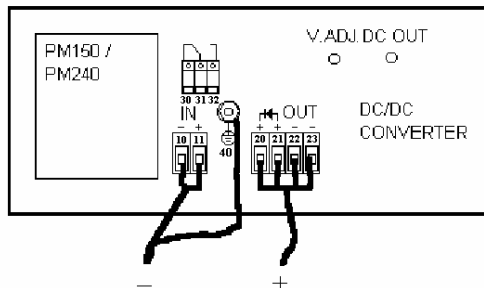

Figure 6. Output to case isolation voltage test.
- Connect your isolation tester between output and case. See *Figure 6*. Raise the voltage of the isolation tester from 0 to 4000Vd.c. Check that the leakage current does not exceed 5 $\mu$ A. The voltage should not be applied for more than a few seconds or the Y-capacitors might be damaged.
4. Connect your isolation tester between output and case. See *Figure 6*. Raise the voltage of the isolation tester from 0 to 2500Va.c. The voltage should not be applied for more than one (1) minute or the Y-capacitors might be damaged.